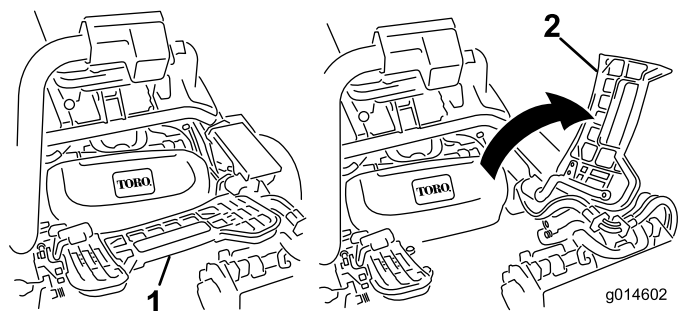

Figure 12
7. If installing the center cutting unit, lift up on the foot rest and swing it up, allowing access to the center cutting unit position (Figure 12).